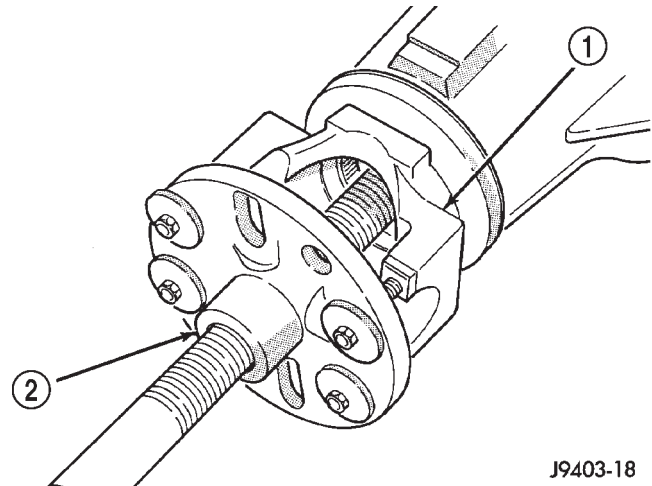

Fig. 13 Yoke Removal
(1) Raise and support the vehicle.
(2) Scribe a mark on the universal joint, pinion yoke, and pinion shaft for reference.
(3) Disconnect the propeller shaft from the pinion yoke. Secure the propeller shaft in an upright position to prevent damage to the rear universal joint.
(4) Remove the wheel and tire assemblies.
(5) Remove the brake drums to prevent any drag. The drag may cause a false bearing preload torque measurement.
(6) Rotate the pinion yoke three or four times.
(7) Measure the amount of torque necessary to rotate the pinion gear with a (in. lbs.) dial-type torque wrench. Record the torque reading for installation reference.
(8) Hold the yoke with Wrench 6719. Remove the pinion nut and washer.
(9) Remove the yoke with Remover C-452 (Fig. 13).
(10) Remove the pinion seal with suitable pry tool or slide-hammer mounted screw.